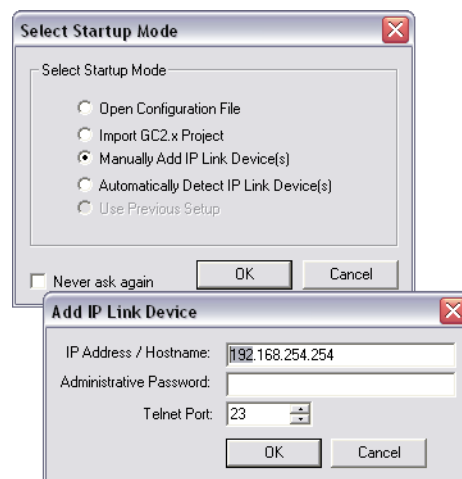

Figure 31. Select Startup Mode Window
If the **Select Startup Mode** window (see figure 31 on the next page) **does not** appear, proceed to step 4:
2. If the **Select Startup Mode** window (see figure 31) appears: